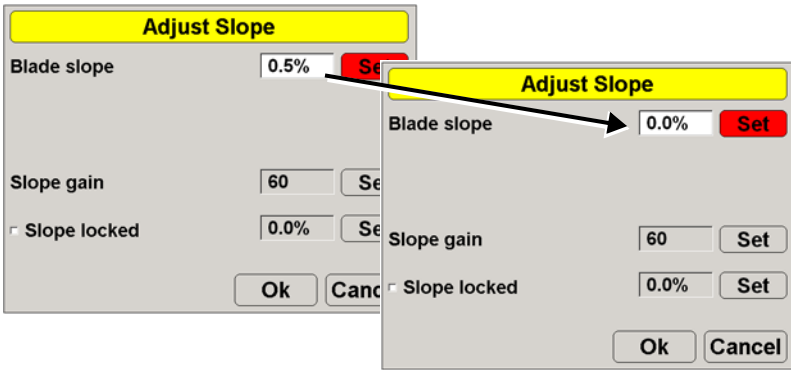

Figure 4-8. Adjust Slope
3. Once the cutting edge is dead level, press the Blade slope **Set** key to adjust the slope (Figure 4-8 on page 4-8).
4. Press the **display window** next to the Set key to display the Small Pop-up keyboard. Enter **0.0** and press **OK**. The Blade slope value displays as 0.0% on the Adjust Slope dialog box (Figure 4-8).